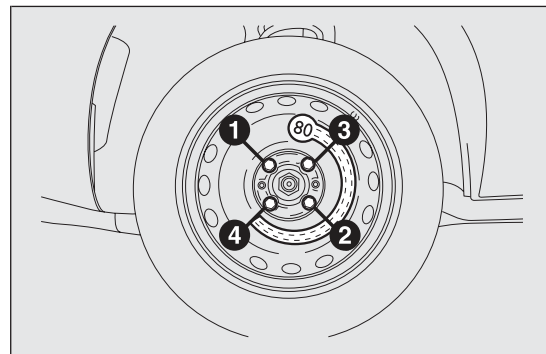

fig. 147
- ☐ use the wrench provided to fully tighten the bolts, passing alternately from one bolt to the opposite one, as per the numerical sequence illustrated in fig. 147.
- ☐ using the wrench provided, fully tighten the bolts in the sequence shown in diagram fig. 147;
- ☐ using the wrench provided, fully tighten the bolts in the same sequence shown previously for the space-saver wheel (see fig. 147);